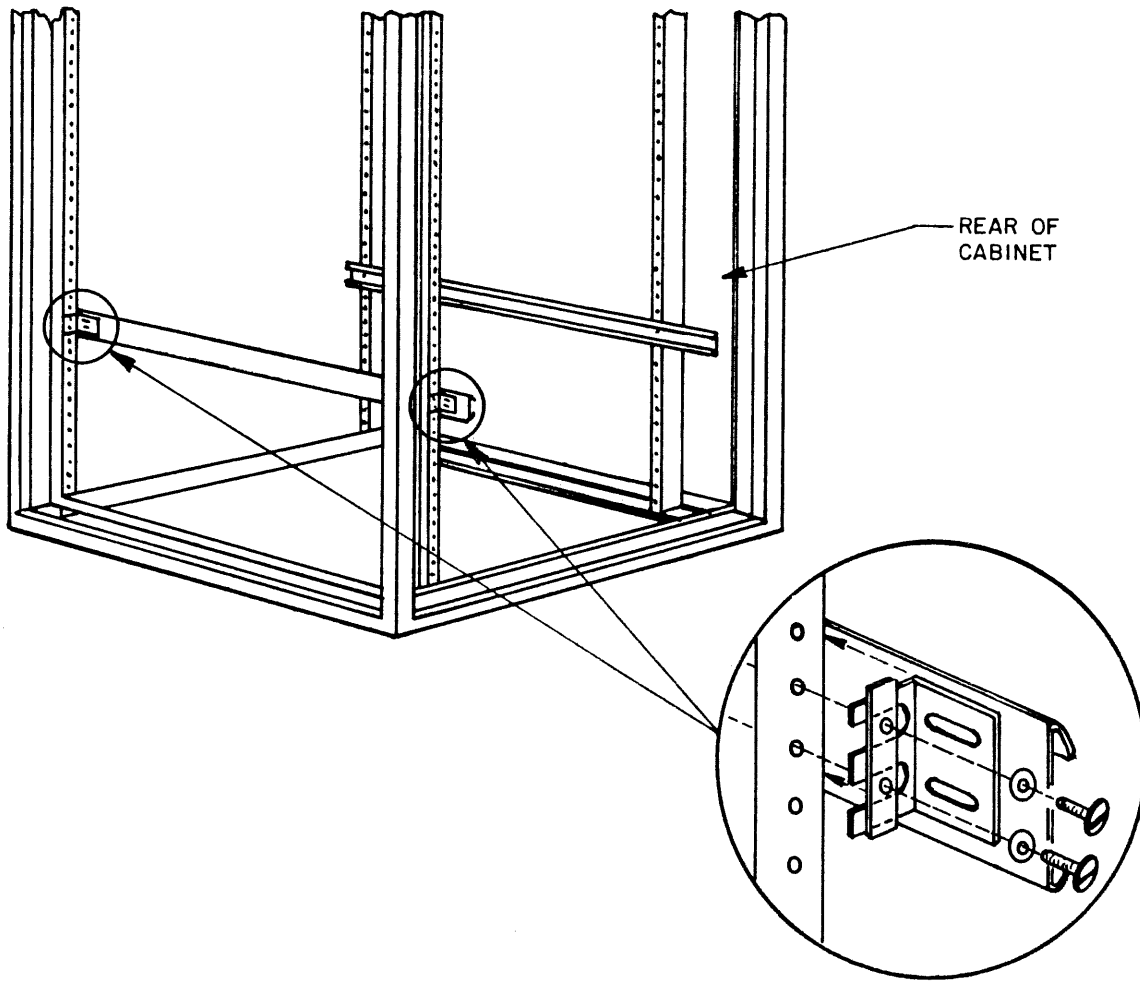

Figure 6-2. Installation of Logic Power Supply - 2 Slides in B 1700 Frame
- c. Install the Logic Power Supply - 2 extender slides in the B 1700 frame as shown in figure 6-2. The slides must be installed on the backplane side of the frame rails, and with the lower mounting screw of each bracket at the hole located 7-5/16" from the base of the frame. Use two # 10-32 x 5/8" screws, two # 10 lock washers and one spacer bar at each bracket location. Note that the wider (offset) side of the spacer bars should be toward the slide.